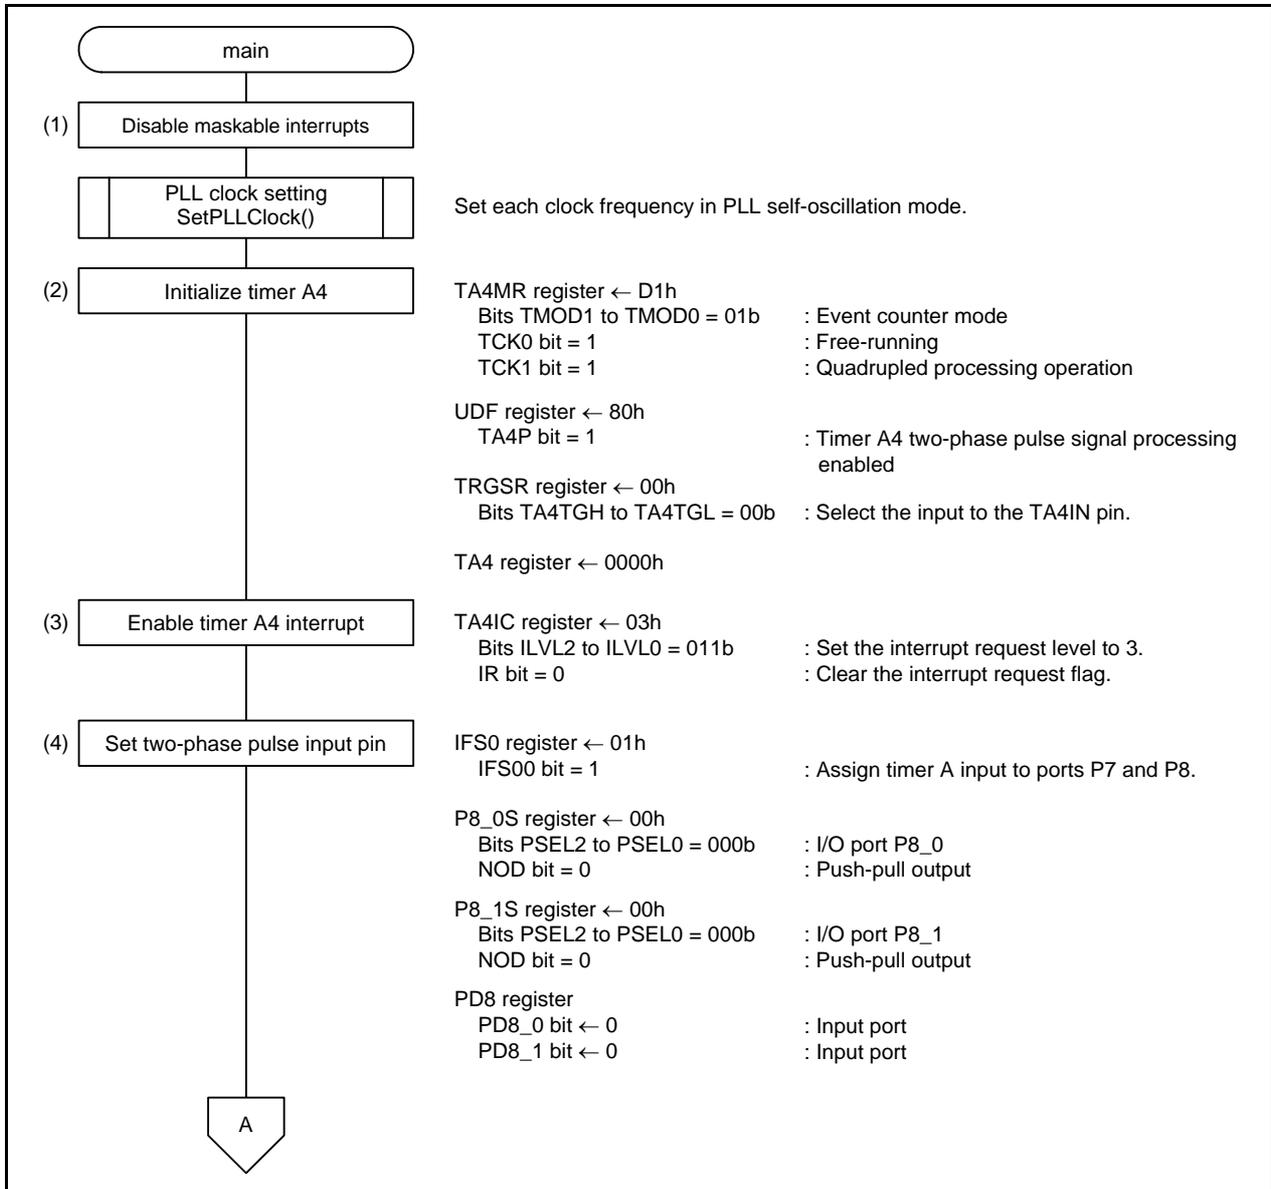
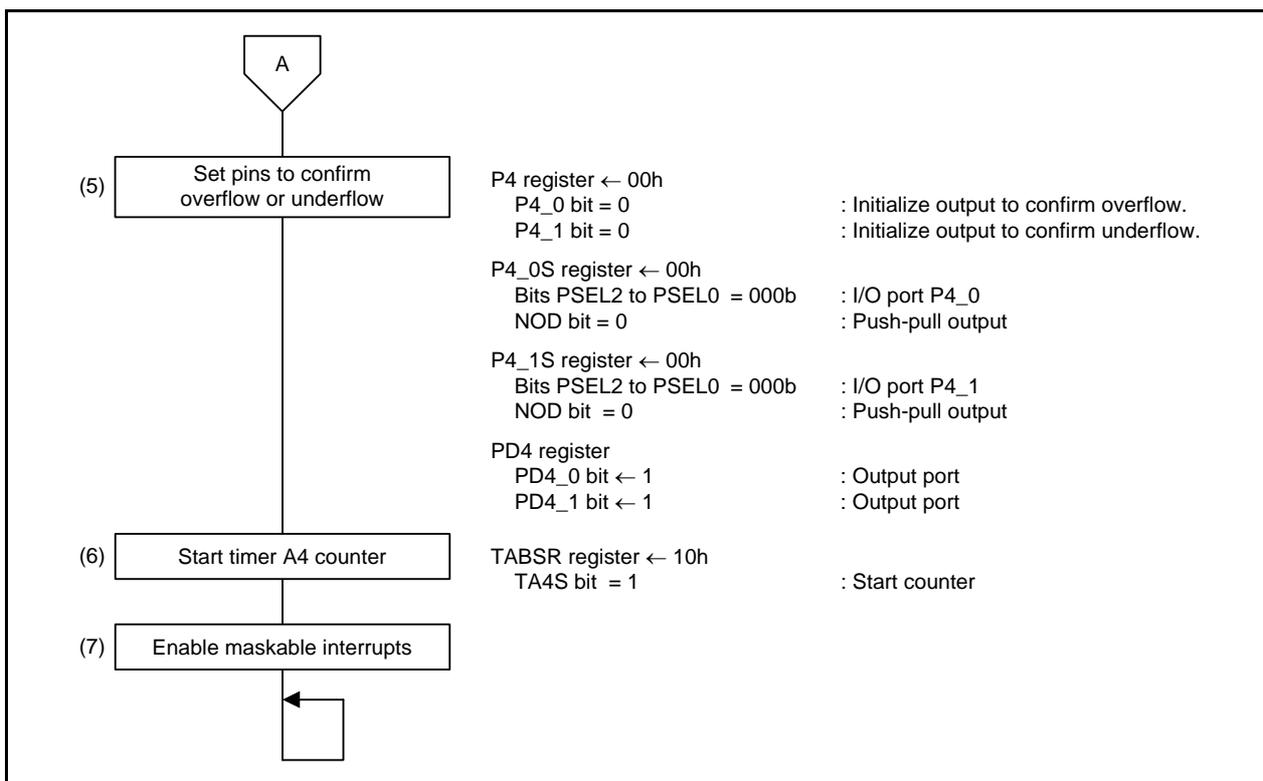

Figure 5.2 Main Processing (1)
Figure 5.3 Main Processing (2)
Figure 5.2 and Figure 5.3 show Main Processing (1) and Main Processing (2), respectively.